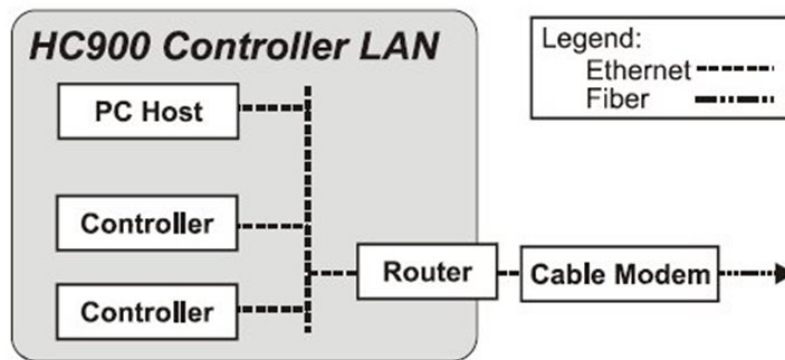

Figure 22 – Typical installation using a Cable Modem
- Install and configure a Router to provide isolation and security. (Figure 22) (This should be part of standard network installation.)